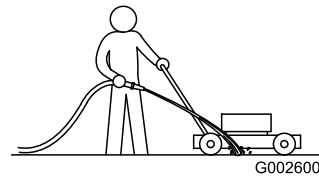

Figure 19
3. With the engine running and the blade engaged, spray a stream of water in front of the **right**, rear wheel (Figure 19).